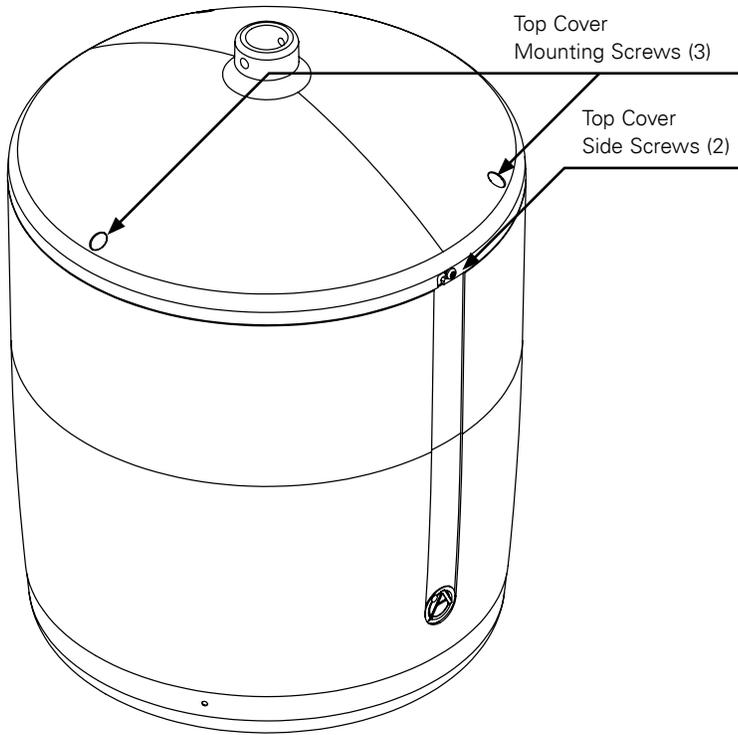

Figure 1
1. Rotate the top cover counterclockwise and pull up to remove. (Figure 1 and 2)